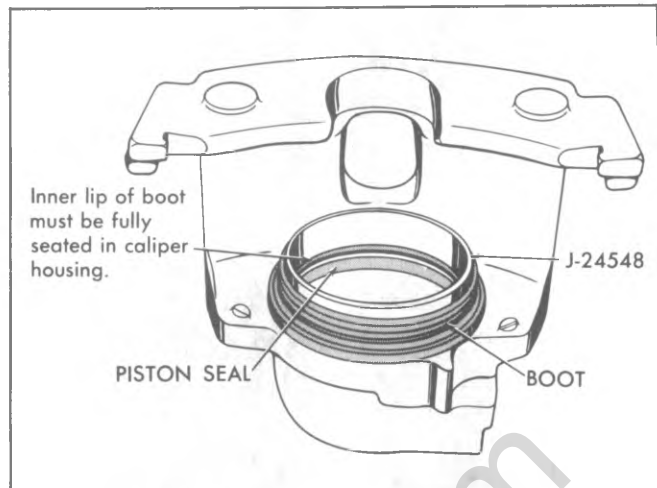

Fig. 5-40—Installing Caliper Piston Boot
2. Lubricate both sealing lips of the dust boot and the piston with a light film of clean brake fluid. Place the new boot over Piston Installer Tool J-24548. This is most easily accomplished by placing the boot large diameter over the tool first, then riding the smaller diameter onto the tool. The large diameter lip must then be slid off the tool to make ready for installation into the bore groove. Install the boot (large bead) into the piston bore groove by reaching inside of Tool J-24548 and pressing the boot bead into the groove (fig. 5-40).